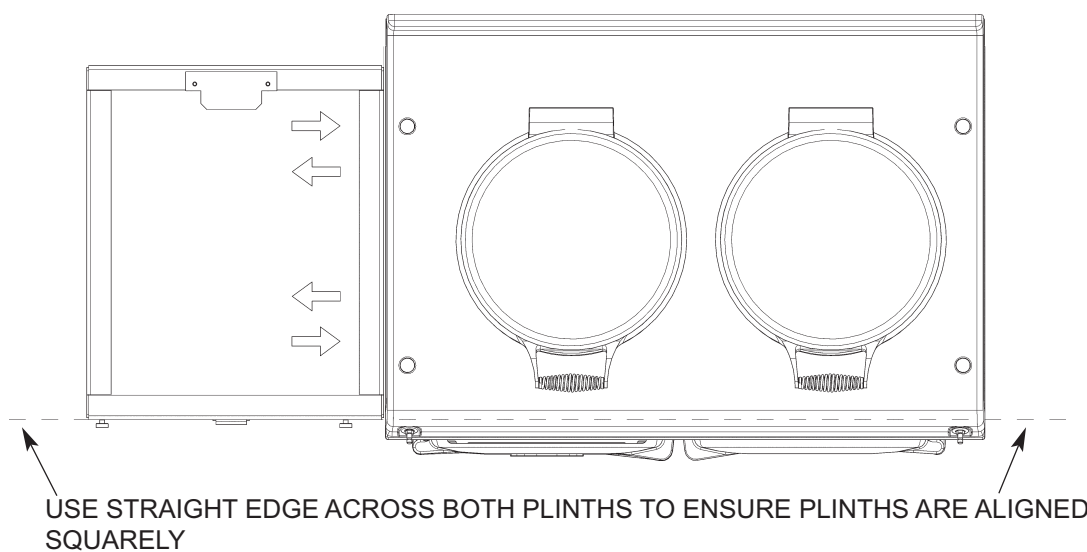

Fig. 11
4. Run a straight edge along the front of the AGA Dual Control plinth, to ensure the front face of both plinths sit squarely against the straight edge. (See Fig. 11)